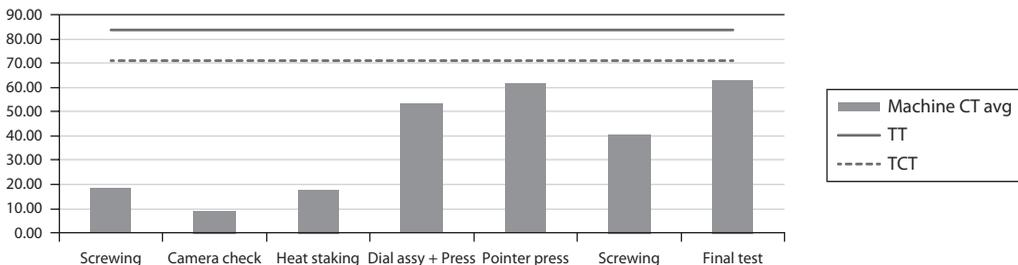

Figure 8.17 Machine cycle time diagram example.
- *Machine cycle time diagram*: A machine cycle time diagram captures the cycle time of machines and combines them into one document for review. It can be used to understand the impact of machine time on process cycle time performance and highlight potential bottlenecks in process flow (Figure 8.17).